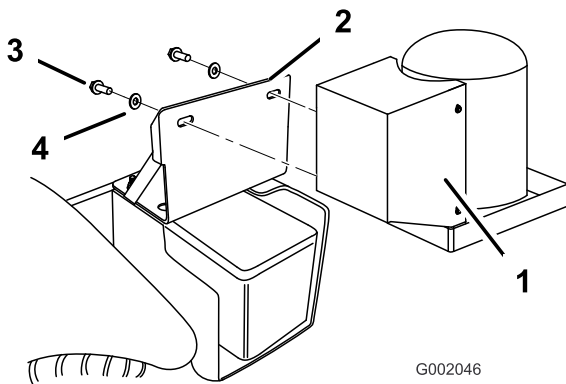

Figure 4
9. Install the tank/compressor assembly to the Multi-Pro 1200 series adapter bracket using 2 bolts (3/8 x 1 inch), 2 flat washers (3/8 inch) as shown Figure 4.